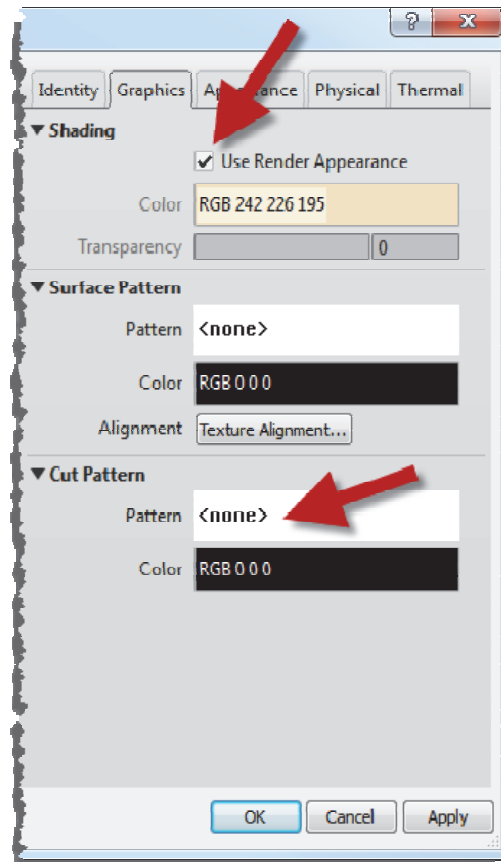

FIGURE 4-3.19 Material Browser; Graphics tab
53. Make sure the **Use render Appearance** under *Shading* is checked (Figure 4-3.19).
54. Set the *Cut Pattern* to **None** (Figure 4-3.19).